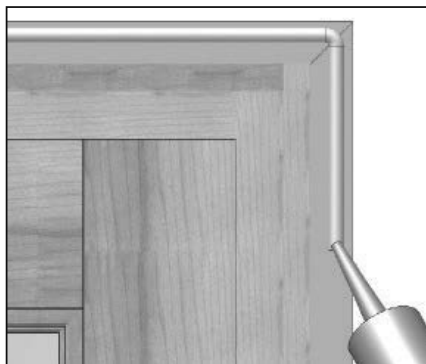
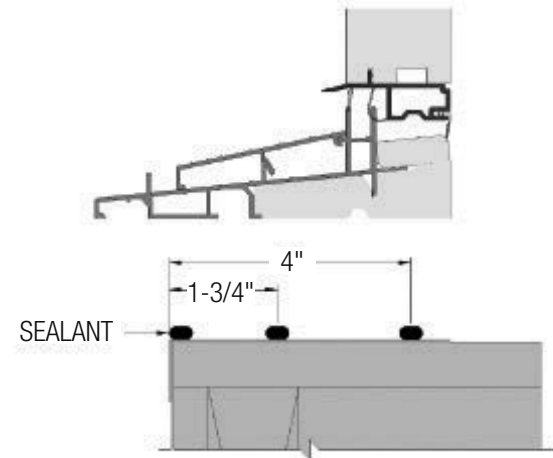

FIG. 9
FIG. 10: 4-9/16" & 6-9/16" IN-SWING PATIO DOOR SILL
- D) Apply sealant on the backside of the head and side brickmould. Apply a 1/4" continuous bead of silicone along the entire length a 1/4" from the outside edge of the brickmould. (Fig. 9)
- a. Apply three 1/4" continuous beads of silicone across the entire width of the rough opening. Note that the locations are different for each door type. Figure 10 shows the silicone location for a 4-9/16" and 6-9/16" in-swing door. The bead location will be different for other jamb sizes. (Fig. 9, 10 & 11)